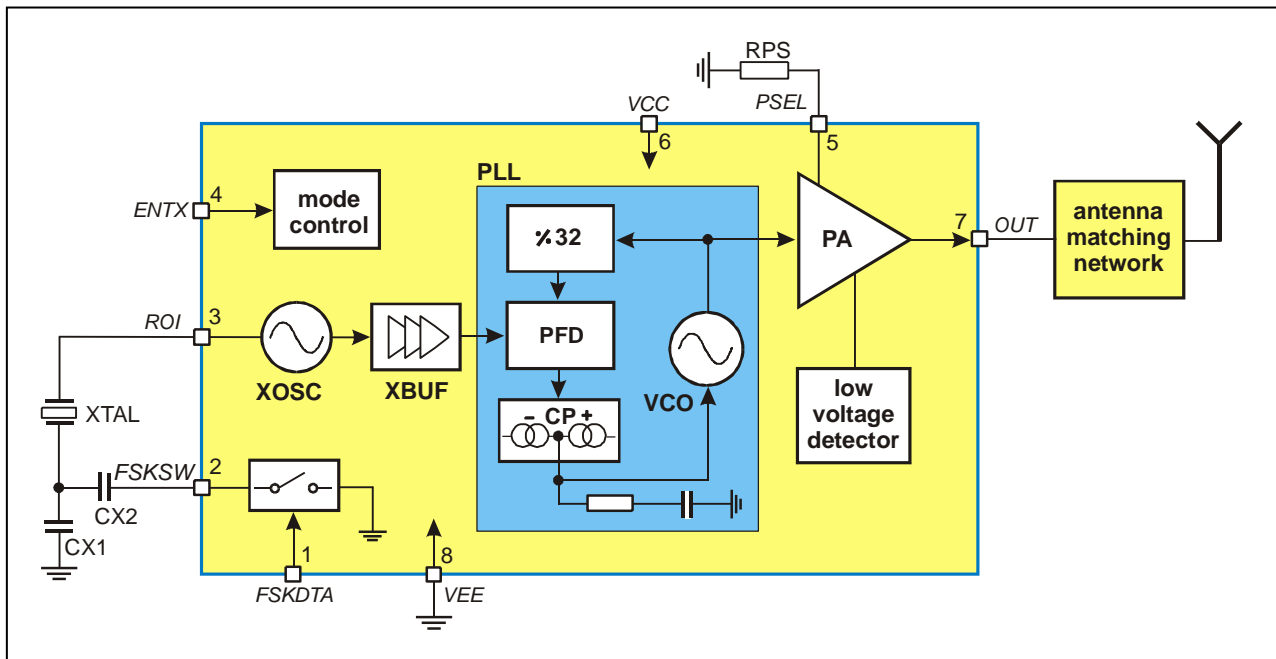

Fig. 1: Block diagram with external components
As depicted in Fig.1, the TH72031 transmitter consists of a fully integrated voltage-controlled oscillator (VCO), a divide-by-32 divider (div32), a phase-frequency detector (PFD) and a charge pump (CP). An internal loop filter determines the dynamic behavior of the PLL and suppresses reference spurious signals. A Colpitts crystal oscillator (XOSC) is used as the reference oscillator of a phase-locked loop (PLL) synthesizer. The VCO's output signal feeds the power amplifier (PA). The RF signal power  $P_{out}$  can be adjusted in four steps from  $P_{out} = -12$  dBm to +9.5 dBm, either by changing the value of resistor RPS or by varying the voltage  $V_{PS}$  at pin PSEL. The open-collector output (OUT) can be used either to directly drive a loop antenna or to be matched to a 50ohm load. Bandgap biasing ensures stable operation of the IC at a power supply range of 1.95 V to 5.5 V.